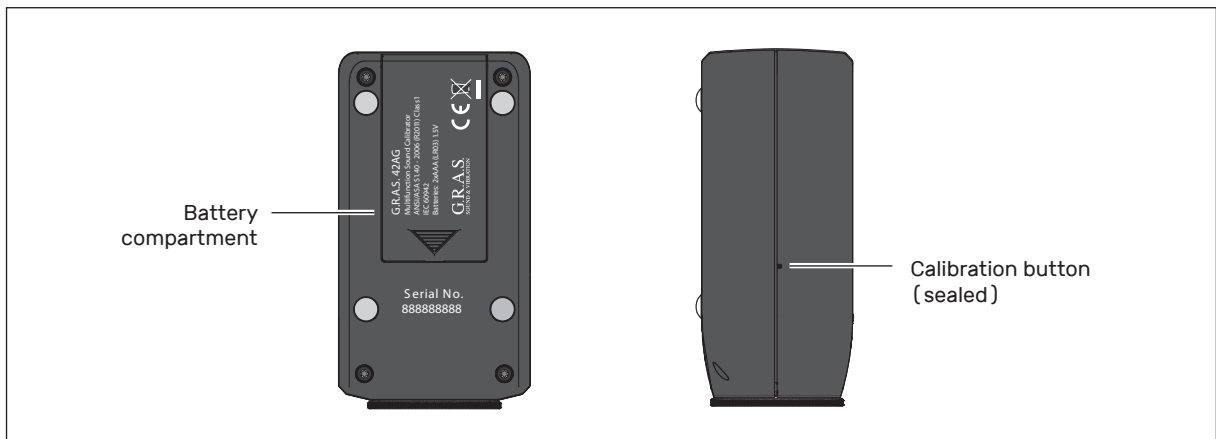

Fig. 3. Battery compartment and Calibration button.
2. Press the **Calibrator button** (See Fig. 3 on page 6 – use an end of a paper clip or similar) for about one second until the display starts flashing and the **Status indicator** turns red. The **Calibration button** is accessible through a small hole in the left-hand side. Use a paper clip or similar
The calibration button is accessible through a small hole in the left-hand side of the cabinet. See Fig. 3 on page 6. Use an end of a paper clip or similar.